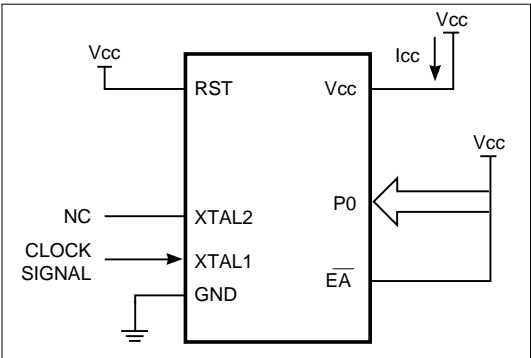

Figure 28. Active Mode
1. See Figures 28,29,30, and 31 for Icc test conditions.